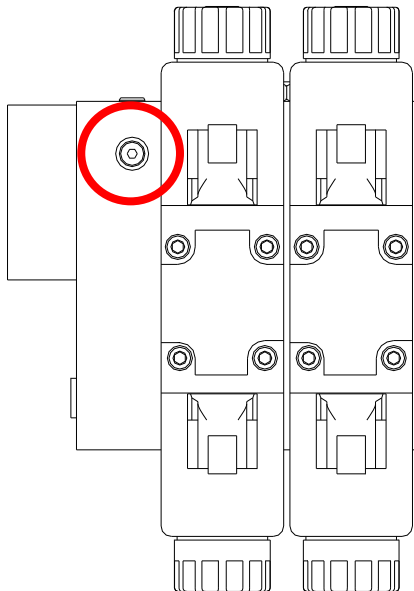

Figure 22: Load Sense Bleed Orifice Location on Top of Block
4. Remove the plug from the Sense Line Bleed port. Location is shown in **Figure 22**. Gently tap the plug with a hammer to loosen it before attempting to remove it.
5. Remove the Sense Line Bleed Orifice and discard. **Figure 22**. Install the setscrew (**F11**) into the Sense Line Bleed Orifice location. Ensure the setscrew is threaded entirely into the